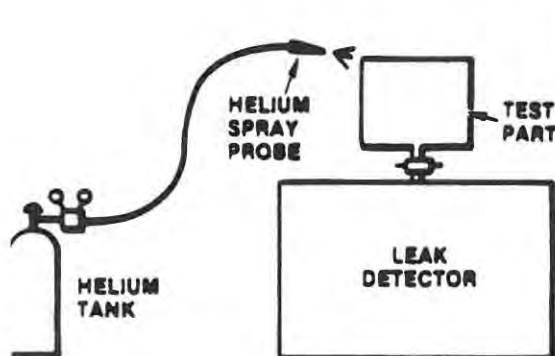

Figure 1-2. Test piece evacuated; tracer gas spray probe used to locate leak.
### (1) TEST PIECES EVACUATED (FIGURES 1-2 AND 1-3)